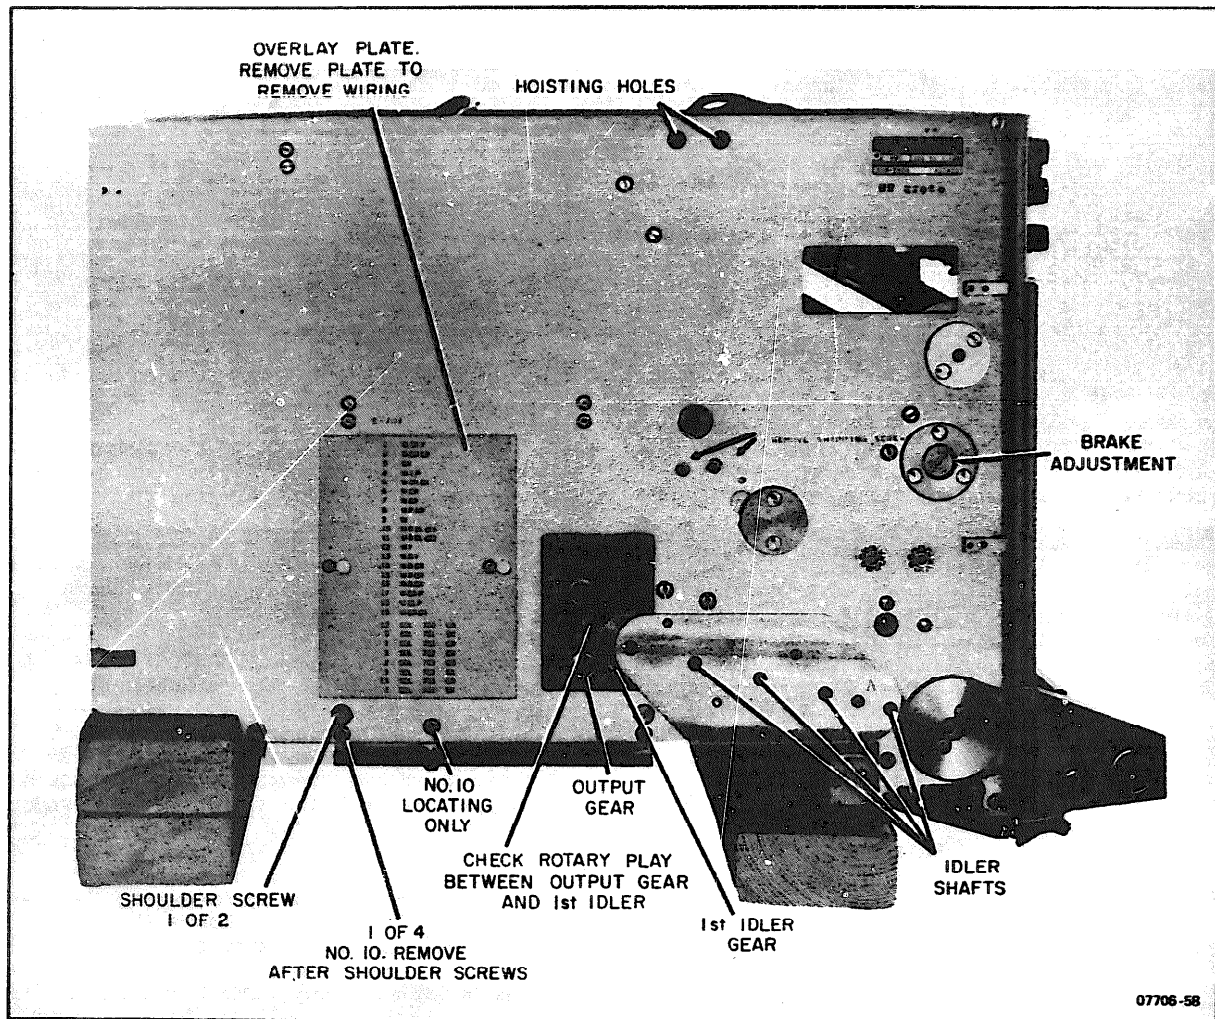
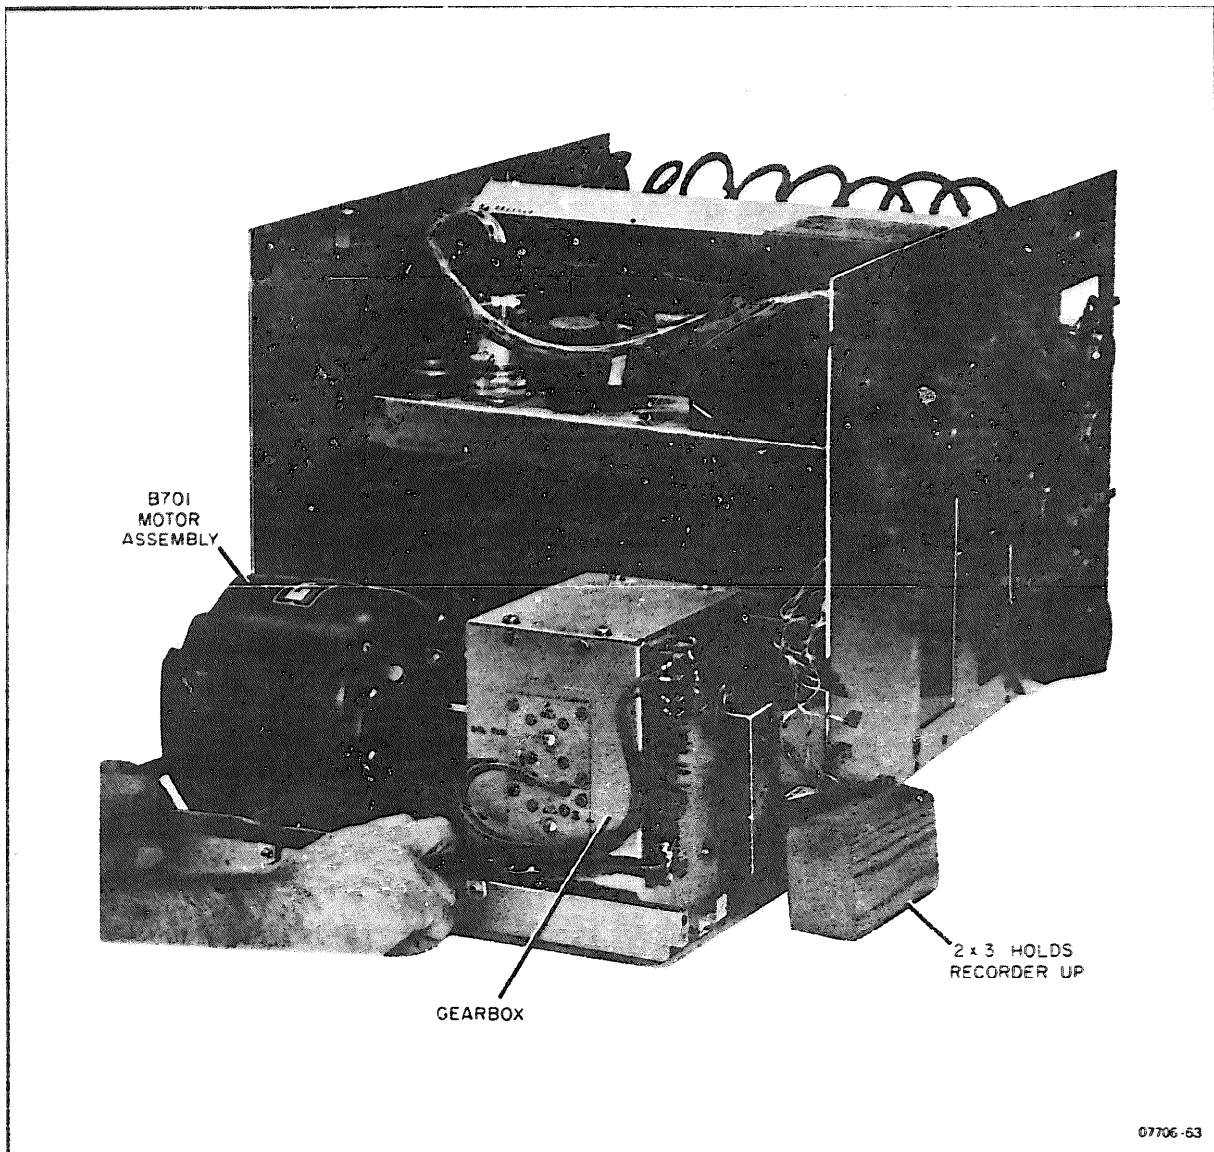

Figure 5-6. Recorder Removed from Cabinet, Prepared for Gear Box Removal
Figure 5-11. Removing Gear Box and Motor From Recorder
Support the recorder on the work bench with pieces of lumber approximately 2 inches (50 mm) x 4 inches (100 mm) x 2 feet (.6 meter). Place one 2 x 4 flat at the front of the recorder directly behind the latch locks. Do not rest the recorder on these locks. Place the other 2 x 4 on edge at the rear of the **re-** recorder at the point where the side plates are cut **out** (see Figure 5-6).
- a. Remove the four mounting screws (2 sems, 2 shoulder locating) at each side of the Gear Box (see Figure 5-6). With these screws removed, the gear box is held in place by the two sems screws located between the removed screws. When these two screws have been removed, the **gear box will drop free from** the recorder as indicated in **Figure 5-11 and the unit** can then **be removed by sliding out** from the rear. To do this, the rear 2 x 4 is placed so that it supports one **side of the recorder. After removal, place 2 x 4 support under both side plates.**